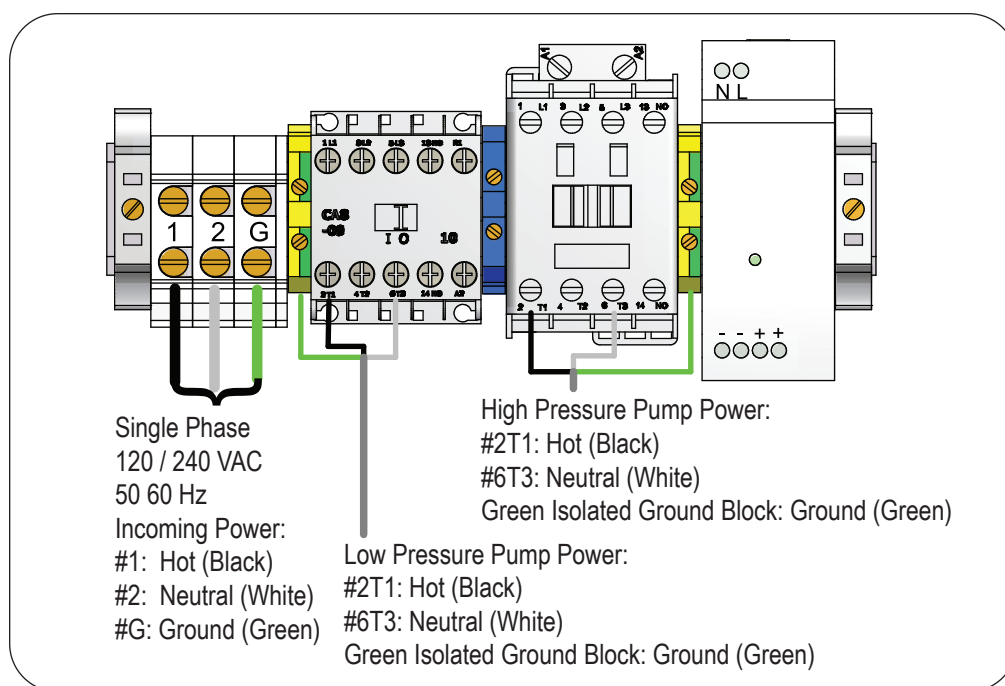

Figure 21: Wiring at the Connector Block (Single Phase)
For single phase power, attach the wires to terminals #2T1 and #6T3 of the LPP contactor, and #G to the green isolated ground block. See *Figure 21* on page 55.
For single phase power, install wires to terminals #2T1 and #6T3 on the HPP contactor, and #G to the green isolated ground block. See Figure 21 on page 55.
- #1, #2, and #G for single phase power (*Figure 21 on page 55*)